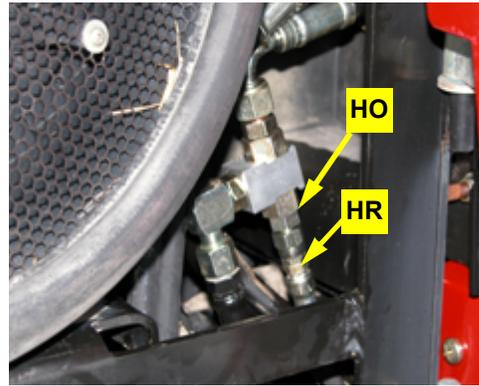
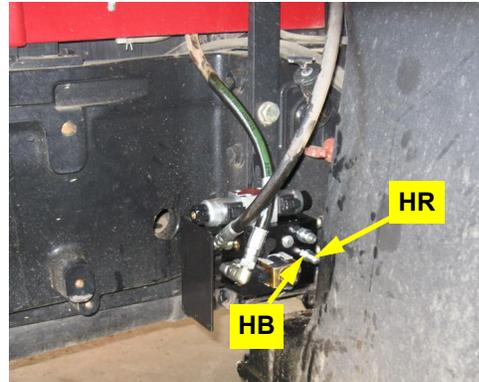

Figure 7: Connected load sense hose
Figure 8a: Mounted hydraulic block. LS hose connected. (P & T hoses also shown connected - see step 9c)
Connect the load sense hose **HR** to adapter fitting **HO** on the load sense shuttle installed at step 6 (Figure 7). Route the hose down to the hydraulic steering block and connect to the adapter fitting **HB** in the **LS** port on the block (Figure 8a).
- a. Using hardware **HG** mount the hydraulic block to bracket **HF** (Figure 8a).